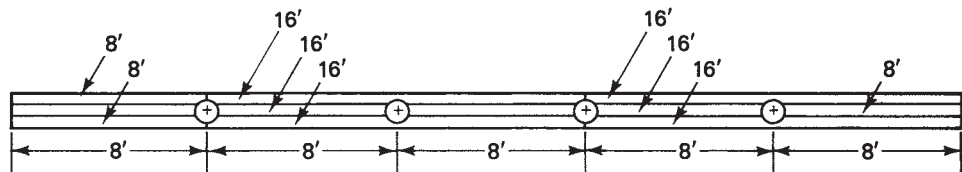

Figure 14–1
- Begin by sketching a plan view of the girder. See Figure 14–1.